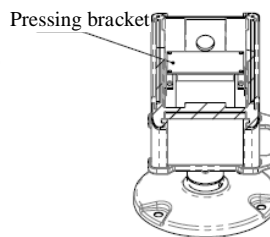

Figure 4-3
3. After a new cell is replaced, plug the wire, place the pressing bracket and lock the screw (Figure 4-3);